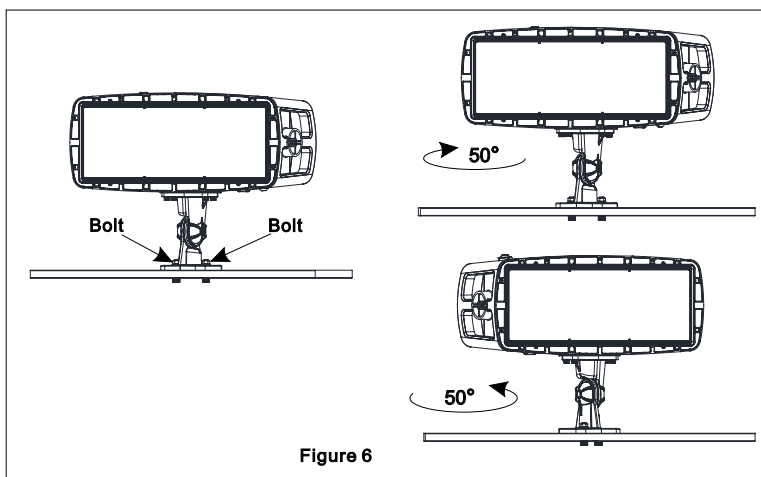

Figure 6
- Set the left/right orientation by loosening the two (2) bolts in the base of the Universal Mount, turning the base, and then re-torque the bolts to 22.2 ft. lbs. (Figure 6).